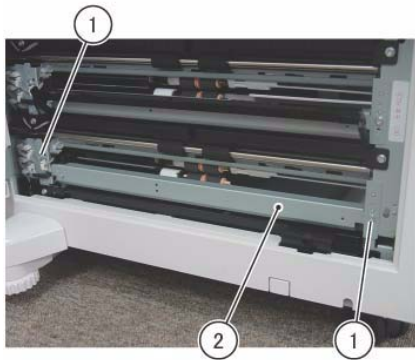

Figure 4 Remove the Tray 4 Feeder Assembly
8. Remove the Tray 4 Feeder Assembly. (Figure 4)